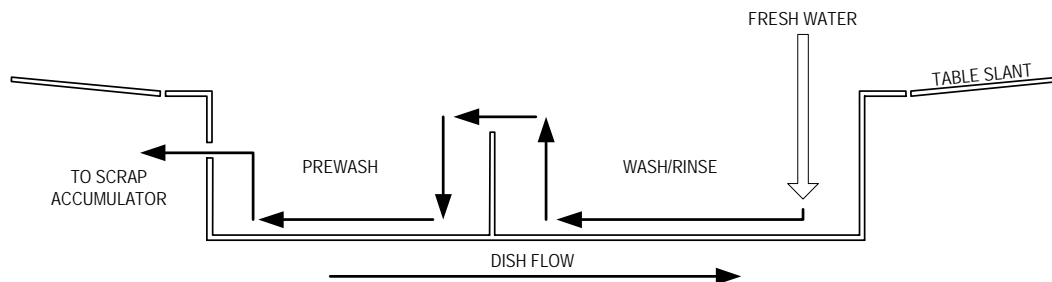

Figure 2.3.3a
1. Tables must slant into the machine for proper drainage (for each 28" of table length a drop of at least ¾" in table height is recommended). See **Figure 2.3.3a.**